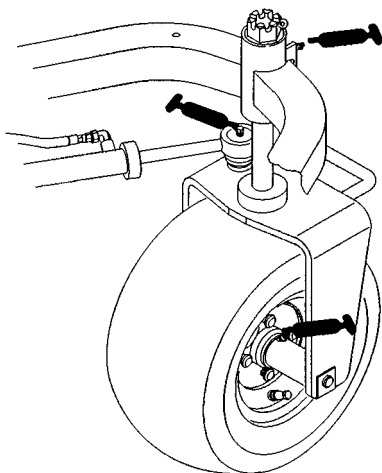
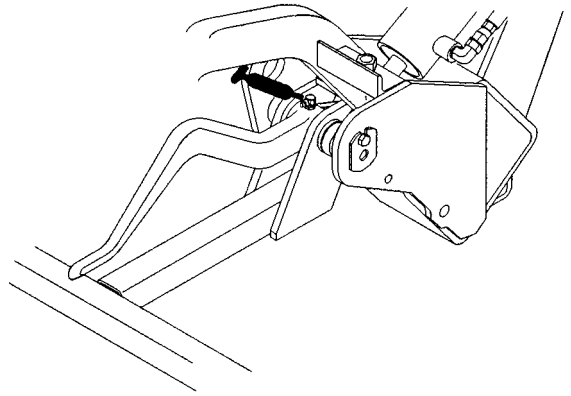
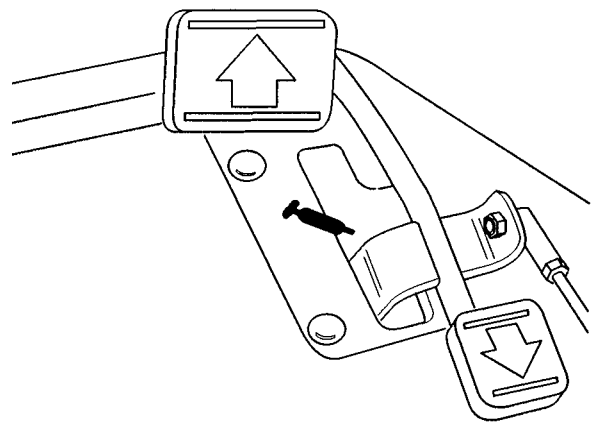

Figure 19
Figure 20
Figure 21
The traction unit bearings and bushings that must be lubricated are: Rear wheel hub (1), Castor bearing (1), Steering cylinder (2) (Fig. 19), Lift arms (3) (Fig. 20), Traction pedal pivot (1) (Fig. 21).